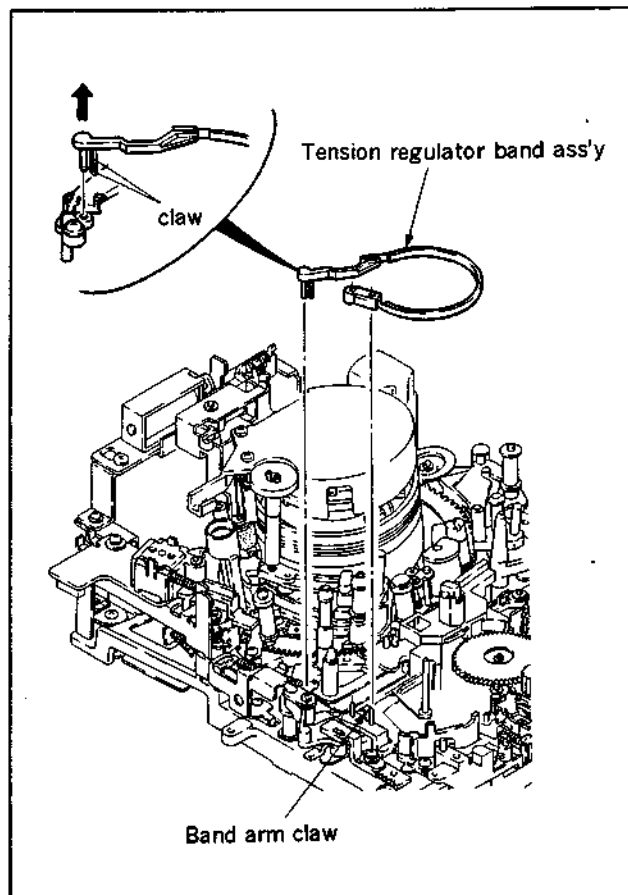

Fig. 4-18-2 Tension regulator band ass'y replacement
- 1) Release the claw of the band arm shown in Fig. 4-18-2, then remove one side of the tension regulator band ass'y.